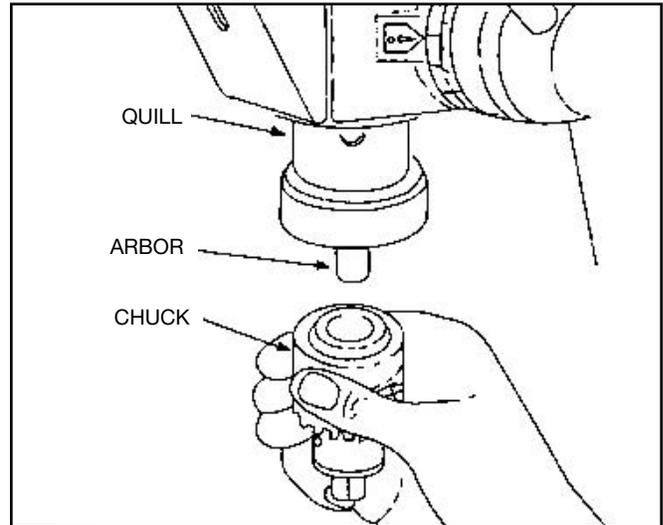

FIGURE 19
3. Unlock support lock and raise table so it is about two (2) inches below tip of chuck.
5. Turn feed handles counter-clockwise and force chuck against table until chuck is secure. See figure 19.